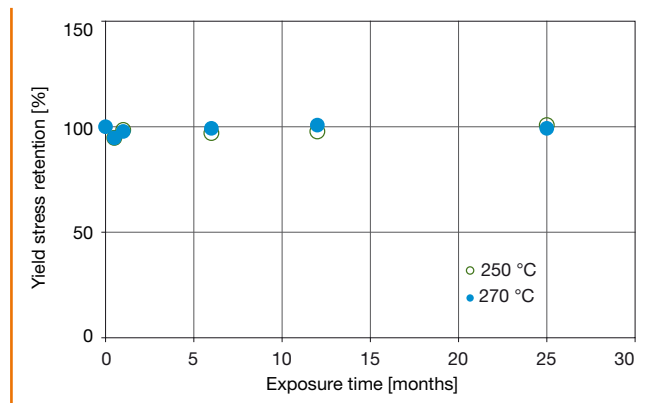

Fig. 15: Stress at yield retention vs. exposure time @ 250 and 270 °C for Hyflon® M series
In Fig. 15 Hyflon® PFA Permeability (P) is charted vs. temperature for various substances. The dependence on temperature is of the exponential type: